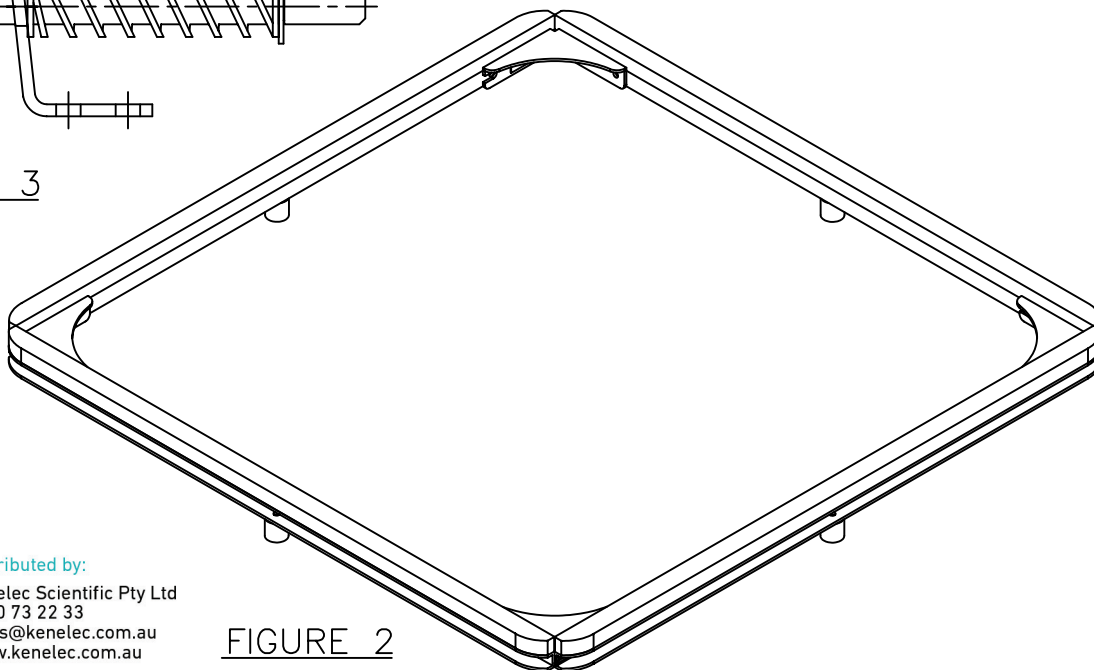

FIGURE 2
2. Continue with the other two channels until you have a square frame (fig. 2) that is locked tightly in all four corners.